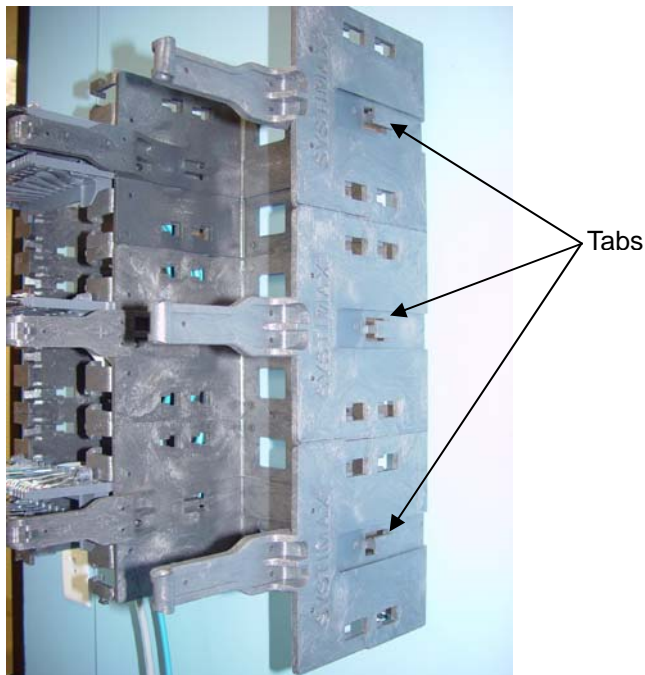
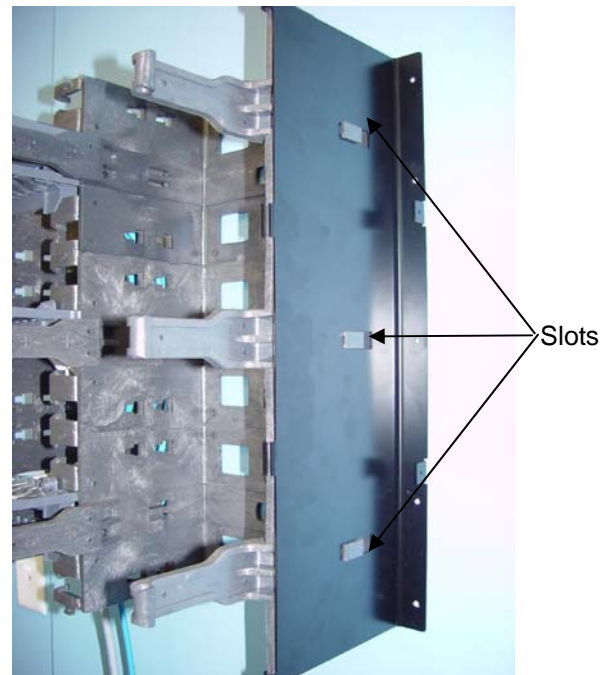

Figure 11. Tabs on Vertical Troughs
Figure 12. Mounted Side Panel
2. Locate tabs on outside of 12U Vertical Trough section (Figure 11). Position side panel as shown and hang it on side of Vertical Troughs so that tabs extend through slots in side panel (Figure 12).